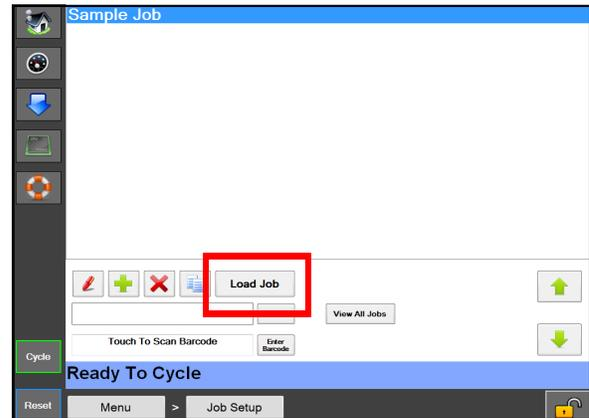

Figure 5-3C. Load Job Button.
5. Press the Load Job Button. This will send the highlighted job to the PLC and send the label, if applicable, to the printer. **Figure 5-3C.**